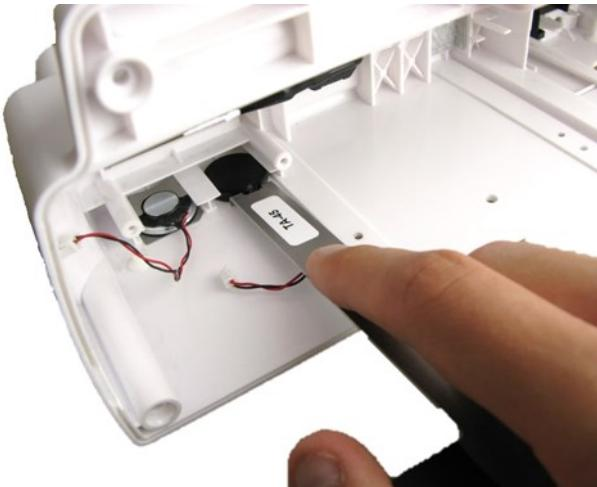

Fig. 77. Pushing in the Buzzer
- to push in the **Buzzer** (1) use **TA-45** to push its housing as shown in **Fig. 77**;